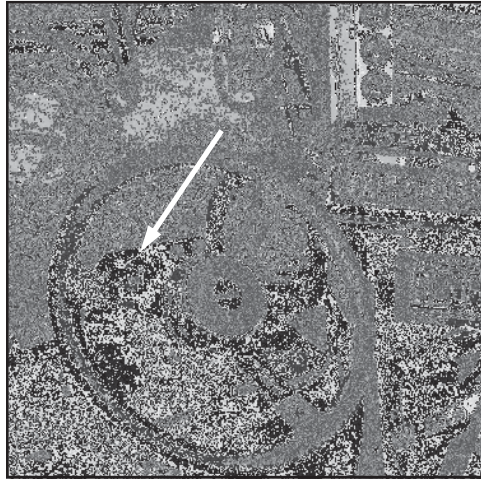

FIG 5.68
To activate the front (fig. 5.70) and rear turning signals (fig. 5.71, item 2), move the turn signal lever (fig. 5.68) up to turn right and down to turn left. Steering column-mounted turn signal indicators will correspondingly flash when either side of the turn signals is activated. The turn signal lever is not a self-centering switch; you must return it to the “OFF” position by hand after completing your turn.